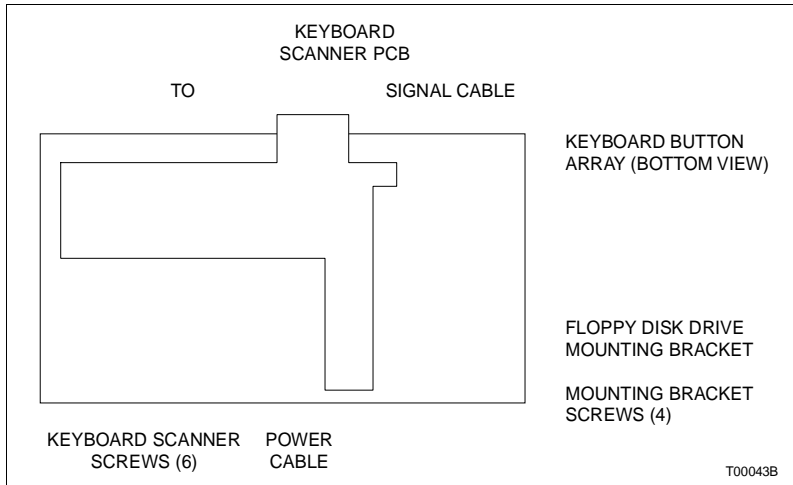

Figure PR54-2. Keyboard Button Array Replacement
- 4. Remove the ground wire from P14 on the keyboard scanner PCB (Fig. PR54-2).